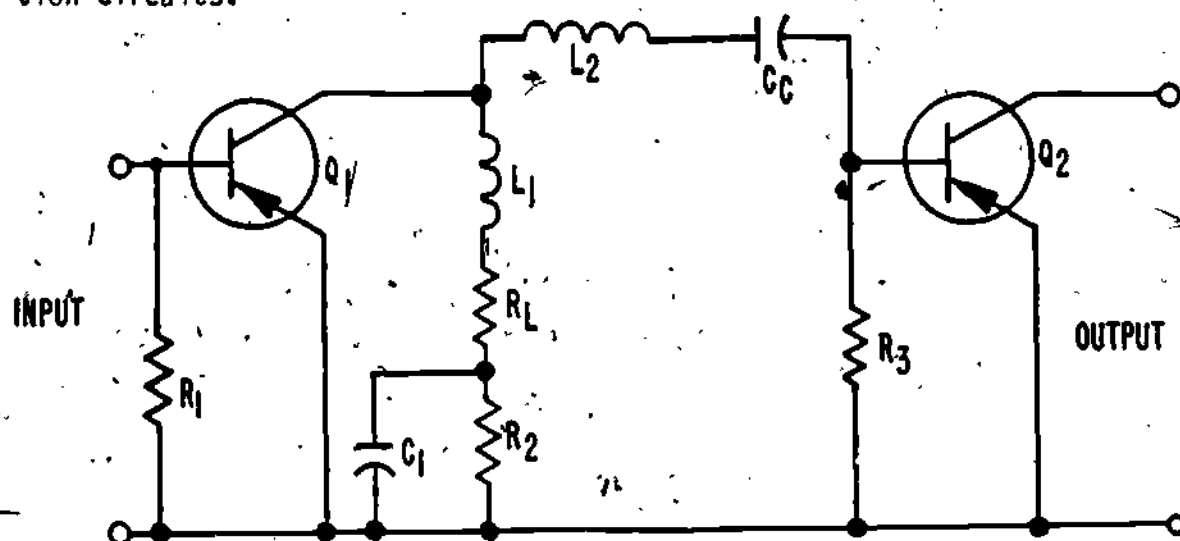

Figure 20
17. You have learned how to improve the frequency response of video amplifiers at low and high frequencies by adding low frequency, shunt, and series compensation circuits. Figure 20 shows an AC equivalent diagram of a video amplifier which includes all three types of compensation circuits.
In Figure 20, low frequency compensation is provided by components